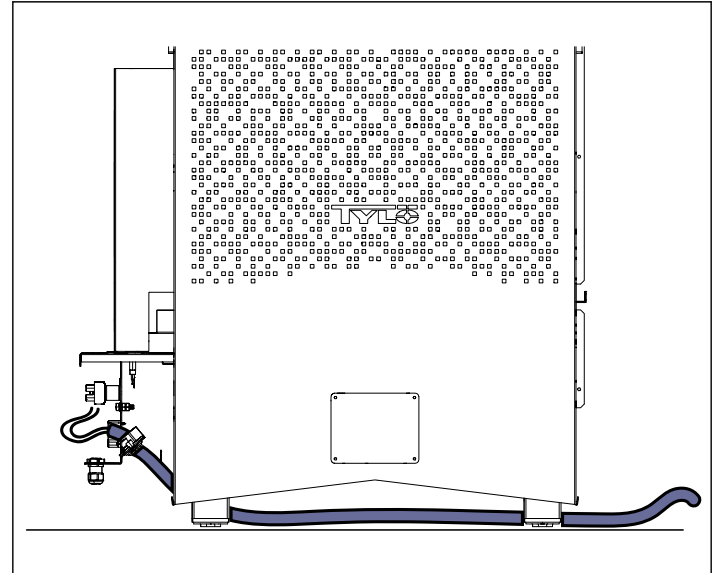

Figure 11: Electrical cable is routed under the heater.
6. Connect the power cable (see Figure 11 & 12) according to the wiring diagram (see Figure 18).